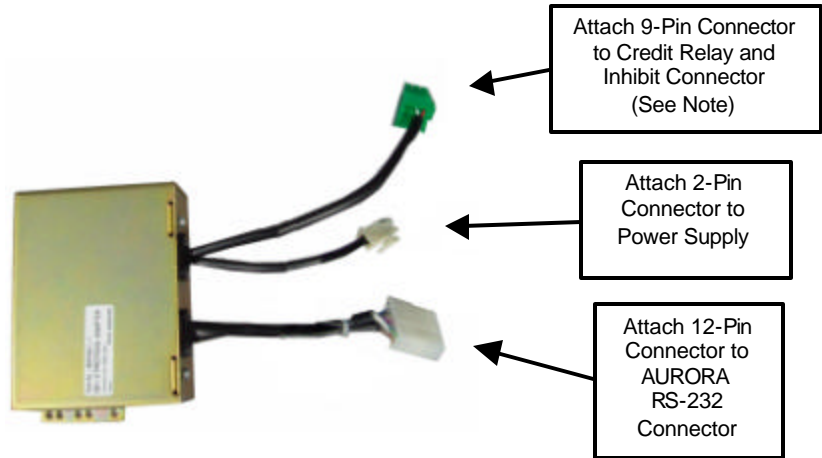
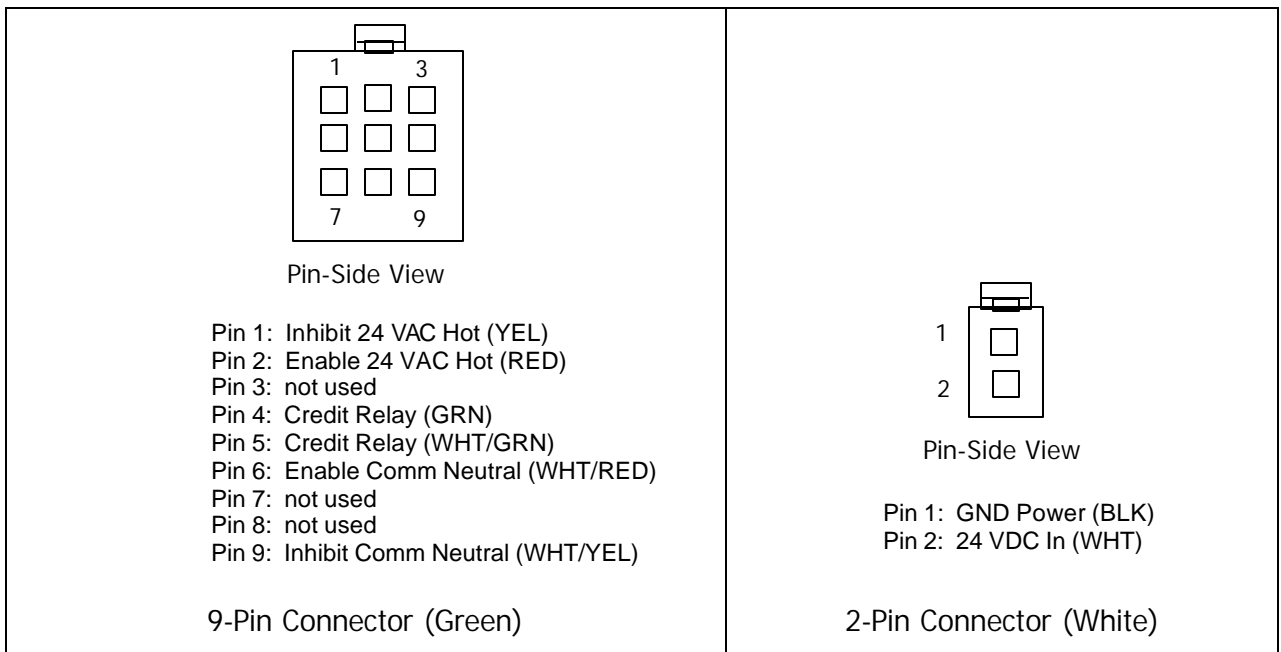

Figure 3. 24 VAC/DC High-Level Pulse Protocol Adapter Assembly — Cable Connections
Figure 4. Connector Pin Assignments for 24 VAC/DC High-Level Pulse Protocol Adapter Assembly
- a. For 24 VAC/DC High-Level Pulse Protocol Adapter, make the connections in **Figure 3** ; for connector pin assignments, refer to **Figure 4** .